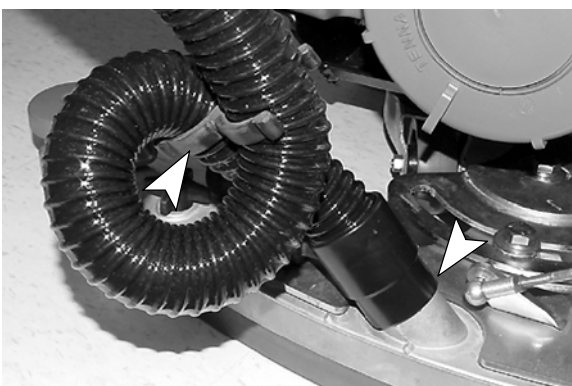

FIG. 5
4. Connect the vacuum hose to the squeegee assembly. Loop the hose as shown using the hose clip provided (Figure 5).